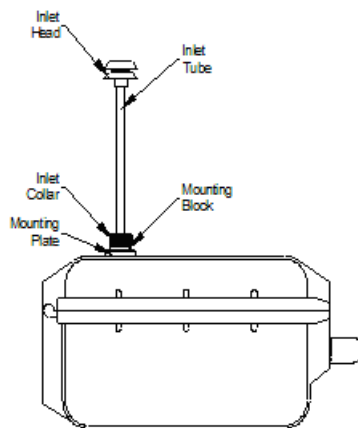

Figure 2 - External view of Dust Detective.
1. Remove the protective dust cap and fit the sample inlet tube/head to the case (see fig 2).